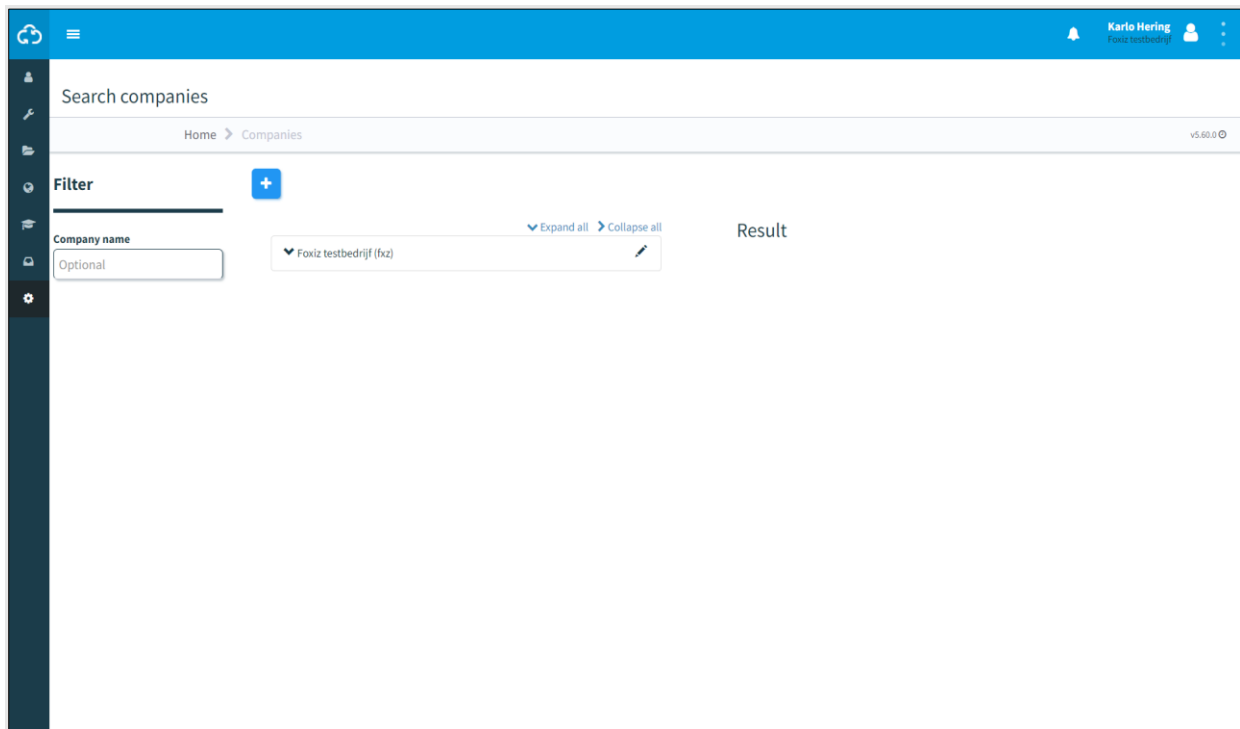

Figure 6-10: Search companies
1. Go to the Dashboard (Figure 6-10) and click Companies.